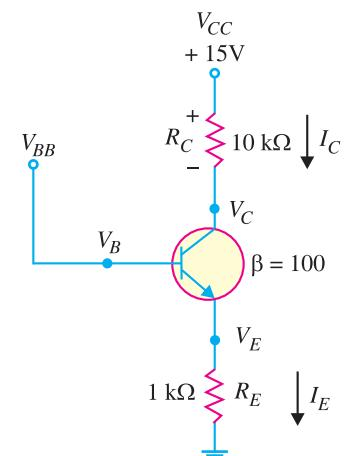

Fig. 8.59
**Example 8.37** In the circuit shown in Fig. 8.59,  $V_{BB}$  is set equal to the following values :